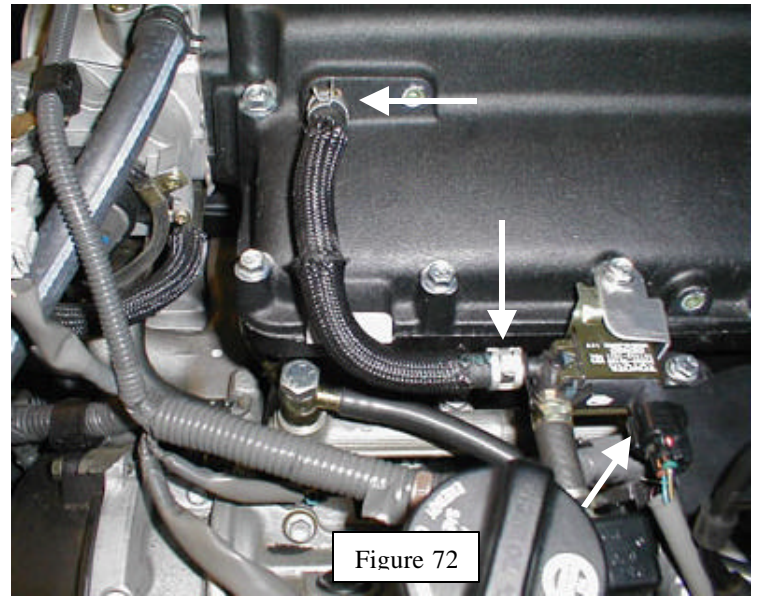

Figure 72
59. Connect the EVAP VSV vacuum hose to the VSV and the 3/8" hose nipple on the TRD manifold. Use OE clamps to secure the hose (Figure 72).
60. Re-connect the VSV electrical connector to the VSV (Figure 72).